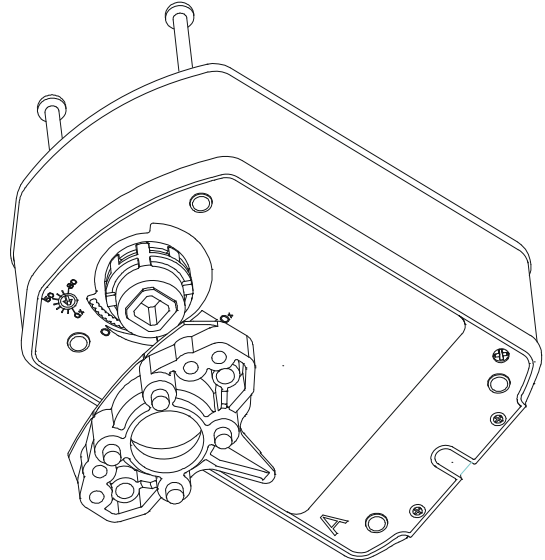

Figure 13: Installing the Linkage
5. Install linkage base on Side A using the two #10 14 x 2.75 in long screws (Figure 13). The recommended torque is 20 to 24 lb-in. (2.3 to 2.7 N·m).